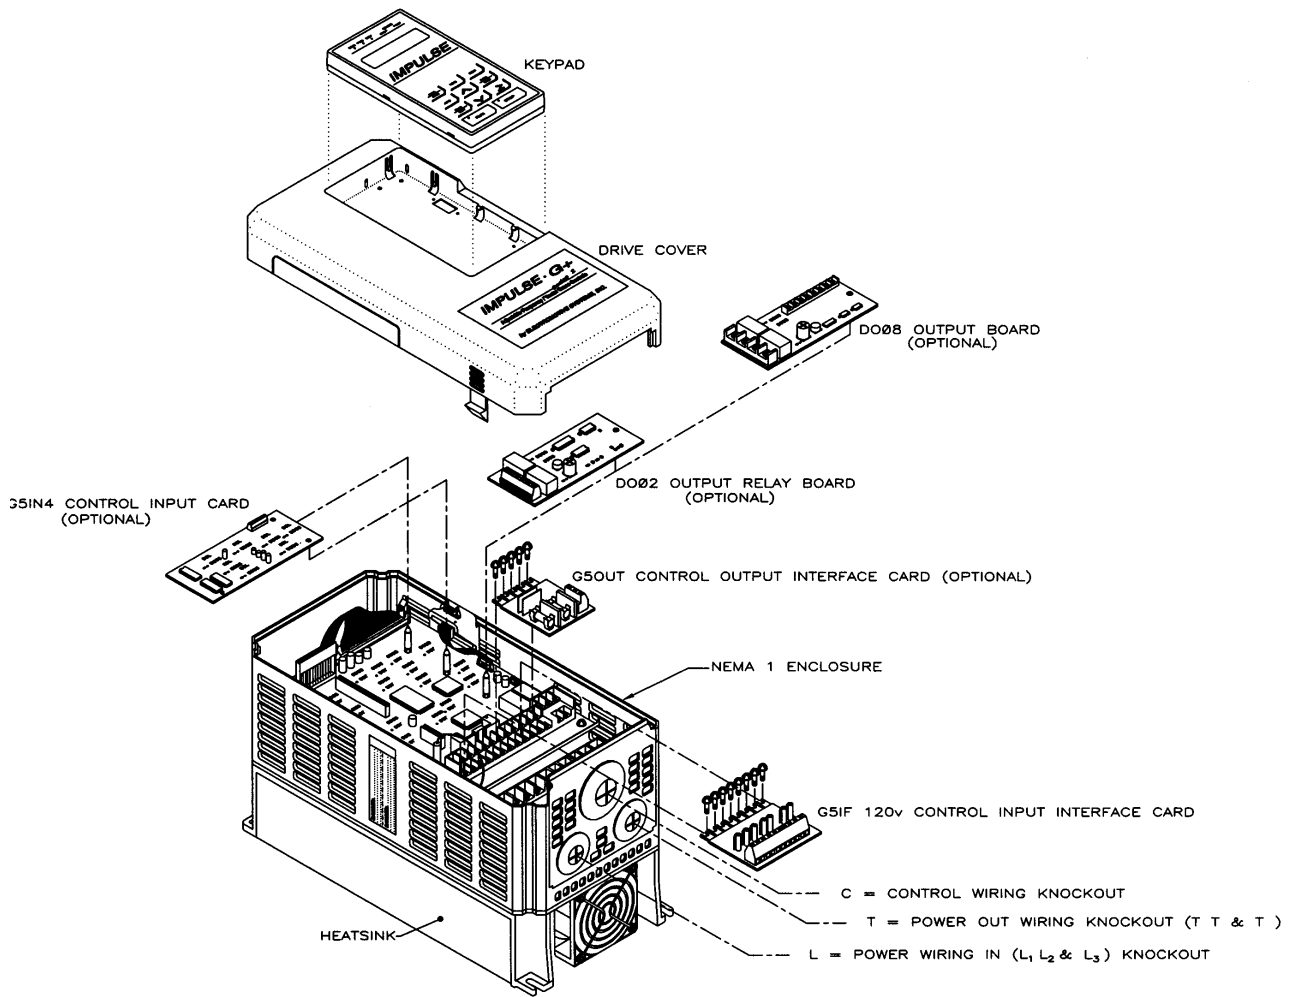

Figure 2-1: IMPULSE•G+ Series 2 Components Diagram Installing the Drive
2. Review Figure 2-1: “IMPULSE•G+ Series 2 Components Diagram” on page 2-5 and Figure 3-3: “IMPULSE•G+ Series 2 Terminal Diagram” on page 3-8.